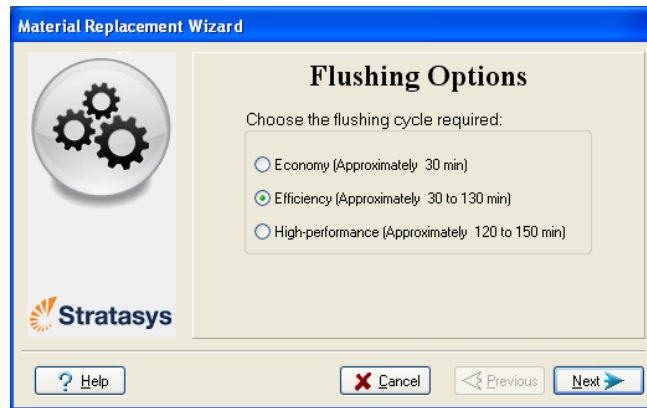

Figure 6-12: *Flushing Options* screen
8. In the *Flushing Options* screen (see figure 6-12), choose how thoroughly you want to flush the system.